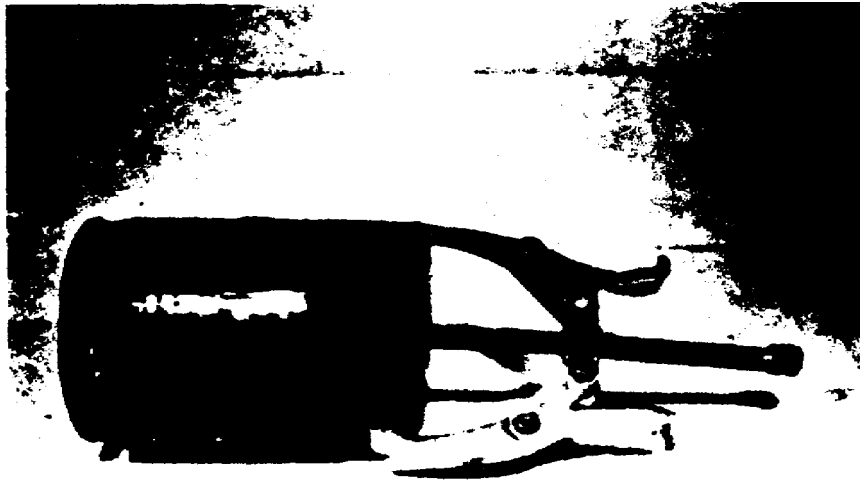

Figure 8. Removing housing.
- e. Remove drive end housing (using puller)(fig 8).